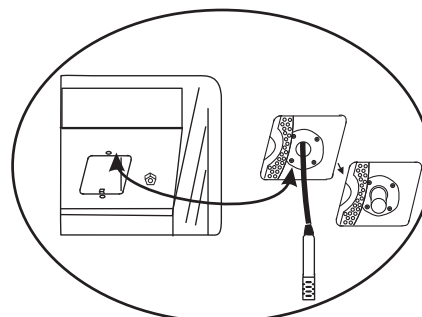

Figure 5-7. IR Sensor with Cable
6. Grip the IR sensor and carefully pull it downward. Unscrew the cable from IR sensor (Figure 5-7). Set the sensor aside. See Step 9 for the IR sensor disinfection procedure. Connect the dummy sensor to the cable. Fit the installed dummy sensor up into the previous sensor location.